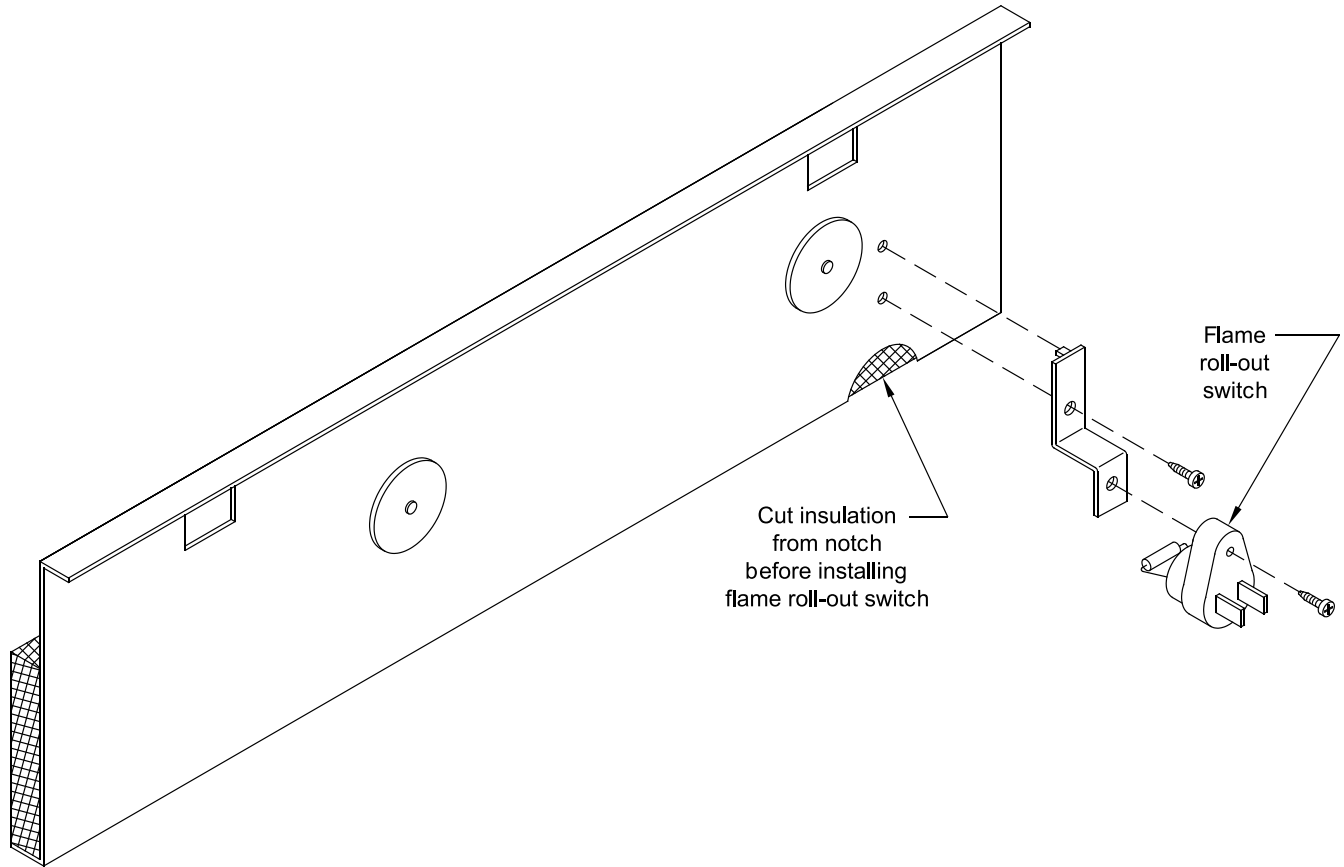

Figure 2-6: Flame Roll-out Switch Installation
- M. Attach Flame Roll-out Switch to Burner Access Panel. See Figure 2-6. Flame Roll-out Switch and hardware are located in Combination Boiler Parts and Control Carton. Flame Roll-out Switch is a single use device - do not test with heat - switch cannot be reset.
2. Attach Flame Roll-out Switch Mounting Bracket to burner access panel with (1) #8 x 1/2 in. lg. sheet metal screw.
3. Attach Flame Roll-out Switch to mounting bracket with (1) #8 x 3/4 in. lg. sheet metal screw.